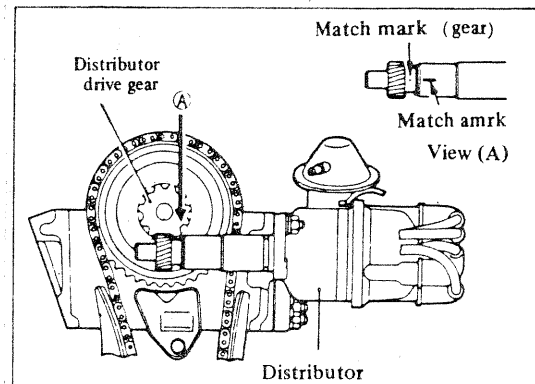

Figure 6.1-I. Distributor Installation
6.1.2- DISTRIBUTOR LUBRICATION (Figure 6.1-H)